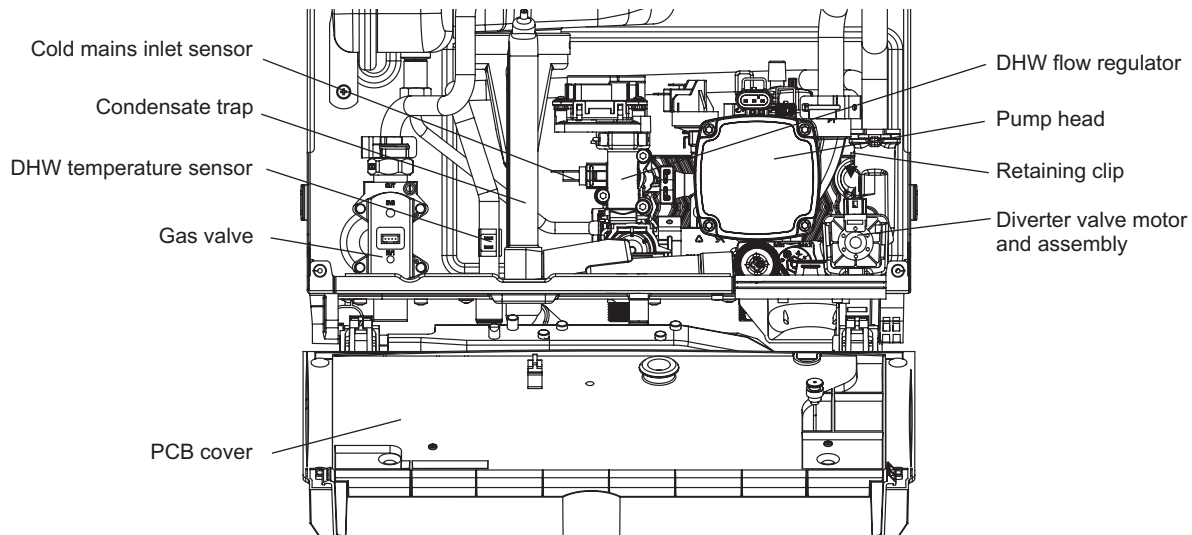

Fig. 7.3
7.11 DHW TEMPERATURE SENSOR - Fig. 7.3
1. The DHW sensor is positioned in the hot water outlet pipe to the left of the flow switch, see Fig. 7.3. Unplug the two connections and unclip the sensor from the pipe.
7.12 COLD MAINS INLET SENSOR - Fig. 7.3
7.13 DHW FLOW REGULATOR VALVE - Fig. 7.3
7.18 PUMP HEAD - Fig. 7.3
7.22 DIVERTER VALVE MOTOR - Fig. 7.3
7.23 DIVERTER VALVE CARTRIDGE - Fig. 7.3